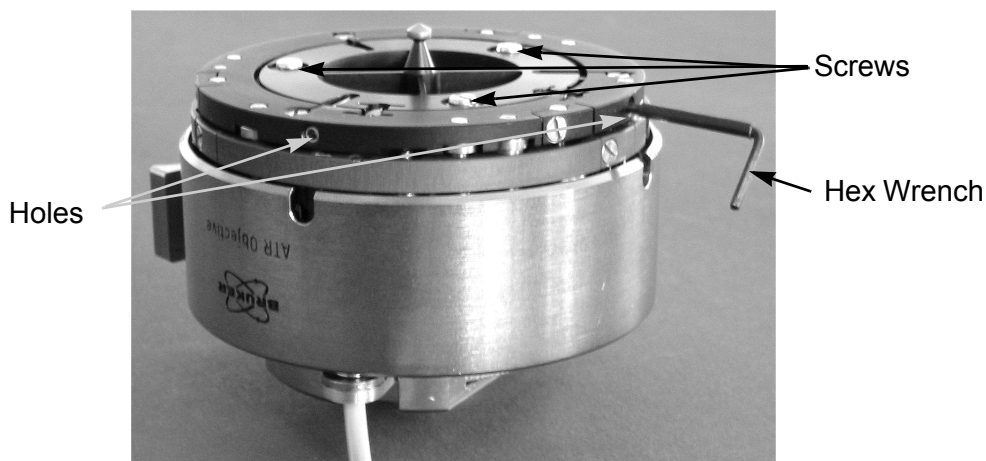

Figure 30: Centering the ATR Crystal
- Loosen the three screws at the bottom side of the crystal holder slightly. (See figure 30.)
- Insert the hex wrench in one of the two holes of the crystal holder (figure 30) and move the ATR crystal in the x and/or y direction.